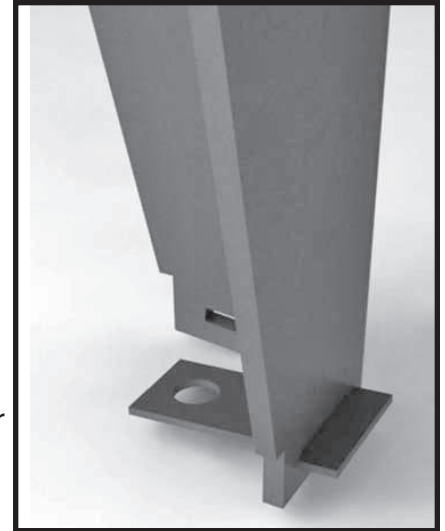

Figure 16: Anchor tabs for mobile homes.
2. The stove must be fastened to the steel frame of the mobile home, using lag screws. The screws can be inserted through the holes in the pedestal or legs (Figure 16).